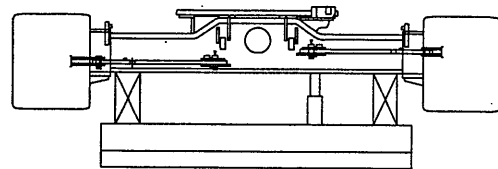

Fig. 11-14
- (7) Place a wooden block under the machine on the extended crawler side. (Fig. 11-14)